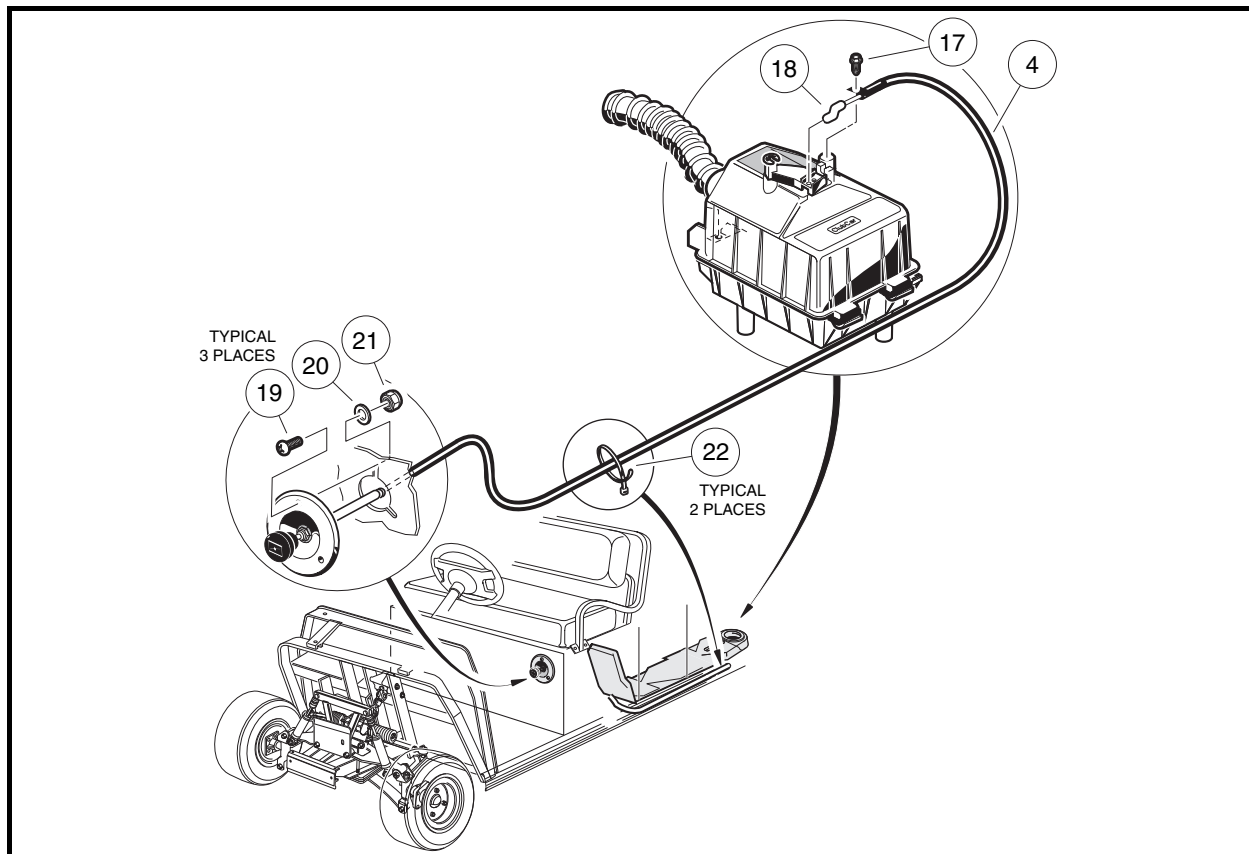

Figure 4-6 Villager 6 and 8 Choke Cable
12. Remove the screw (17) securing the choke cable to the air box and detach cable end (18) from choke lever (**Figure 4-6, Page 4-6**).
13. Remove the wire ties (22) that secure choke cable to the vehicle frame.
14. Remove three screws (19), nuts (21) and washers (20) from body and remove choke cable assembly from body.
6. Install three screws (19), washers (20), and lock nuts (21) as shown and tighten to 18 in-lb (2.0 N·m) (**Figure 4-6, Page 4-6**).
8. Attach choke cable to choke lever on air box. Install screw (17) to secure cable to air box and tighten to 18 in-lb (2.0 N·m) (**Figure 4-6, Page 4-6**).